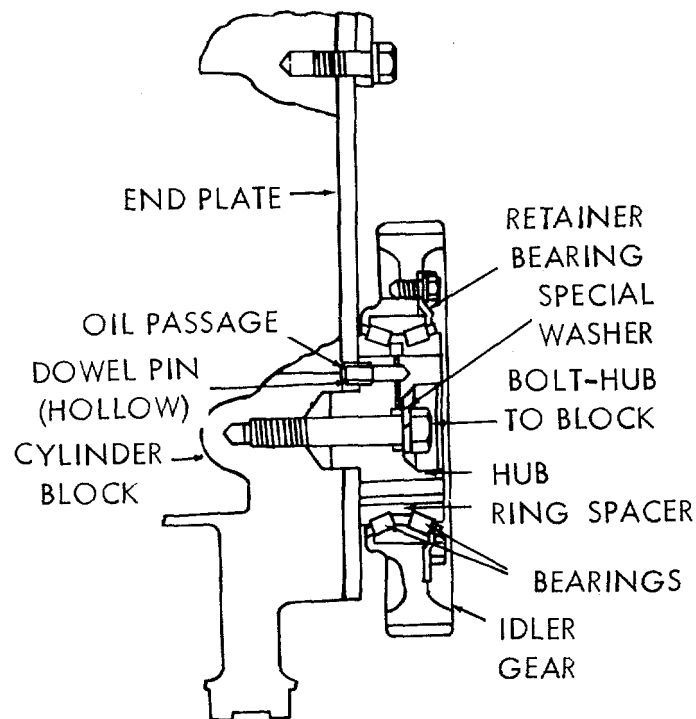

Figure 3-57. Idler gear assembly, cross section view
(1) Remove the hub to cylinder block bolt and washer (Figure 3-57) and withdraw the assembly from the cylinder block rear end plate.